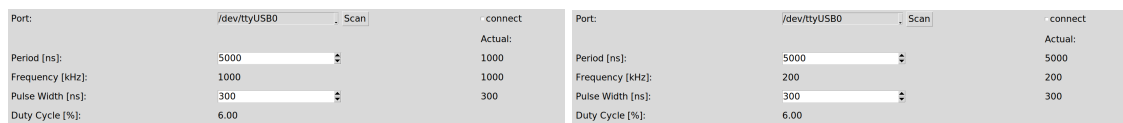

Figure 5.2: The set value appears under **Actual**, which changes upon clicking `apply`, as shown here for changing the pulse repetition period.
2. Click to set the values. The values displayed on the right will update accordingly under **Actual:** to the right of the input box, as shown in Fig. 5.2.